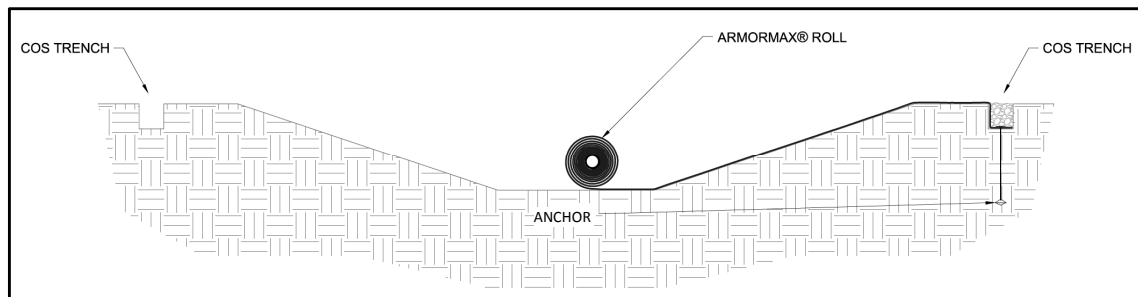

Figure 10: Perpendicular Placement of ARMORMAX across Channel
10. Unroll the ARMORMAX roll on the channel surface in the area to be armored. (Figure 10) Ensure that ARMORMAX has intimate contact with the ground and all irregular surfaces beneath ARMORMAX are removed.